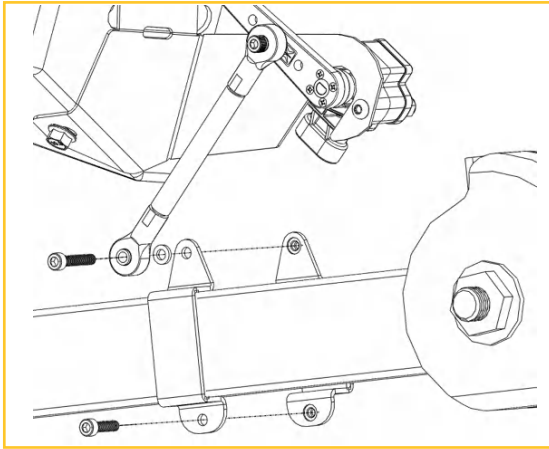

FIGURE 60 - RIGHT FRONT
2. Install the supplied lower control arm brackets. Tighten to 65 in-lbs. The bracket edge will be 3.5 inches from the bushing center. (FIGURES 60, 61, 62)